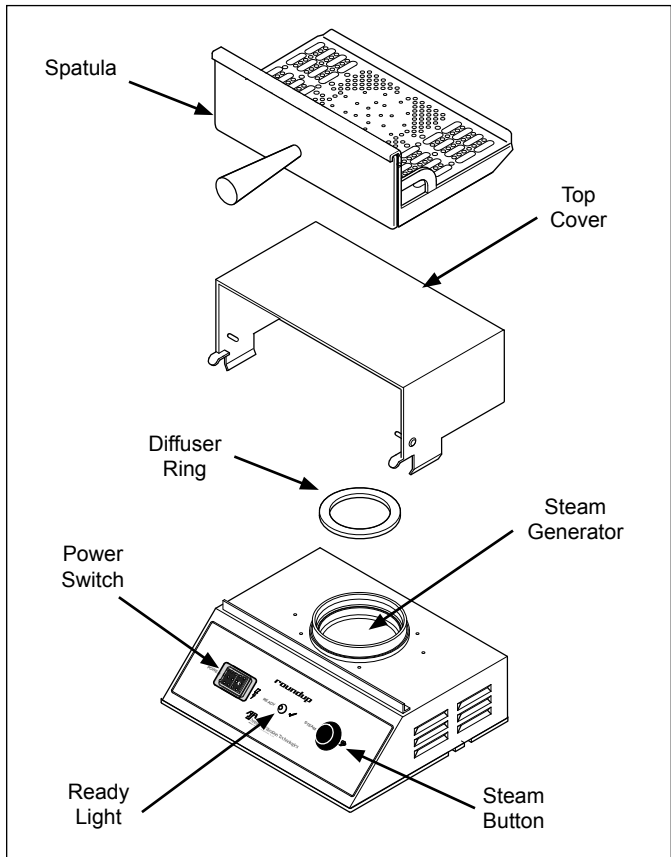

Figure 1. MSS-200 Mini Spatula Steamer
When placing the Mini Spatula Steamer (Figure 1) into service, pay attention to the following guidelines:
4. Insert the spatula into the steamer and press and release the Steam button ONCE (Figure 1). The Mini Spatula Steamer will initiate a shot of steam.